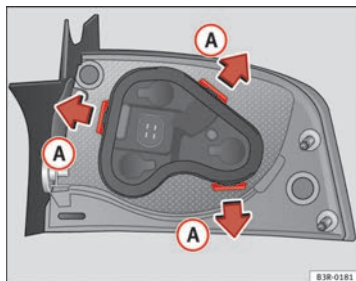

Fig. 211 Retaining tabs on reverse side of tail light
- Release the retaining tabs ⇒ Fig. 211 (A).